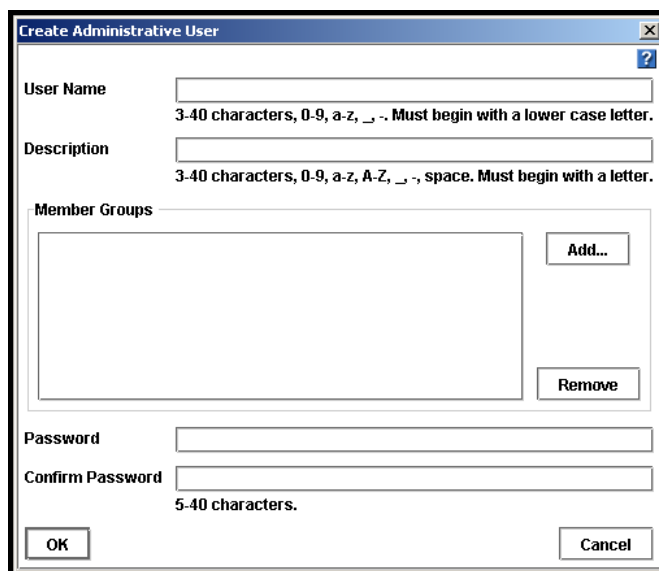

Figure 87. Adding an Administrative User
3. Click Add. The Create Administrative User window opens, shown in Figure 87.